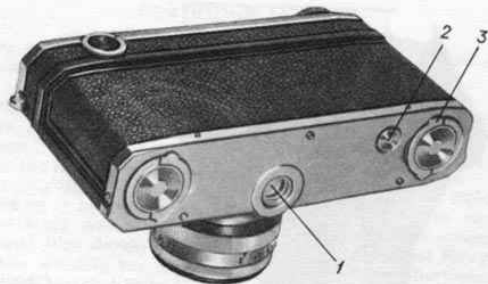

Fig. 4. Camera bottom view:
2. Swing two clips 3 (Fig. 4) of the camera back locks and give them half a turn in the directions indicated in Fig. 6.